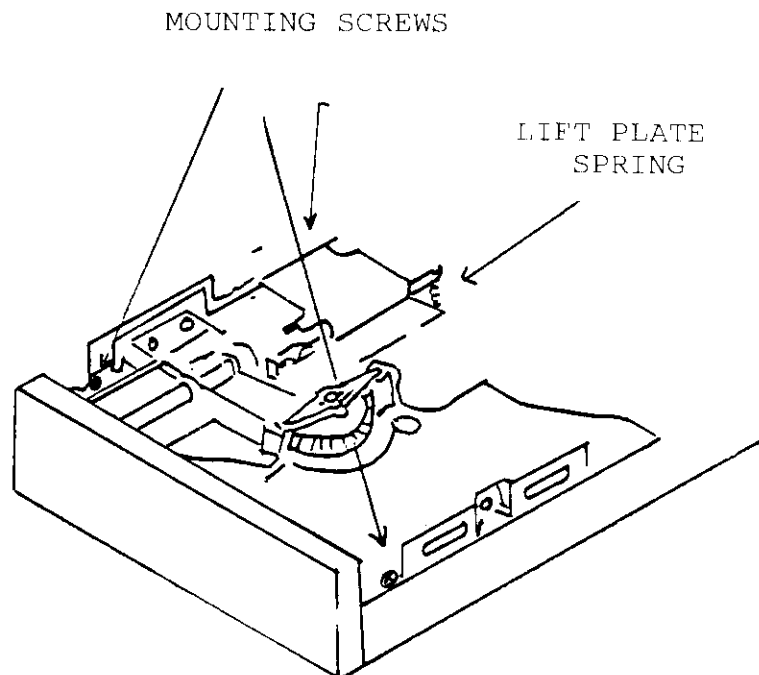

FIGURE 6-7
7. Cut the tie wraps on the cables for the door switch, Plug 5, the index assembly, Plug 12, and write protect, Plug 11, if the sensor is mounted on the upper plate assembly (Figure 6-7).